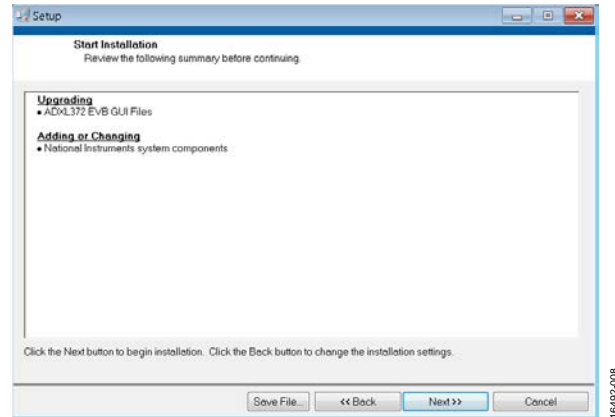

Figure 8. **ADXL372** Evaluation Board GUI Start Installation (Listing Varies Based on PC Requirements)
3. Read the license agreement before accepting it. Click **Next**. The installer lists the required components to install on your PC (see Figure 8).